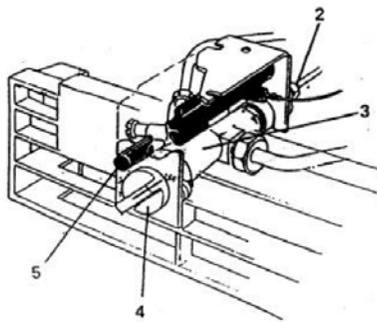

FIG. 14
16. STARTING THE REFRIGERATOR (see fig .14)
FIG. 14 a.
After starting the refrigerator, it will take about an hour before the ice-tray shelf shows signs of cooling. The gas control knob (4, fig. 14) has four positions, marked 'Off', and 3, 2 and 1, representing three sizes of flame - Maximum, Medium and Minimum. The amount of cooling produced in the refrigerator will depend on the size of flame used.
Fill the ice-tray with water to within 3/16 " inch (5mm) from the top, and place it on its shelf inside the refrigerator. When the ice has formed, the tray can be released from the shelf simply by lifting one corner. When operating on gas, ice will be made more quickly if the control knob (4, fig. 14) is temporarily turned to the Maximum flame position (No. 3).